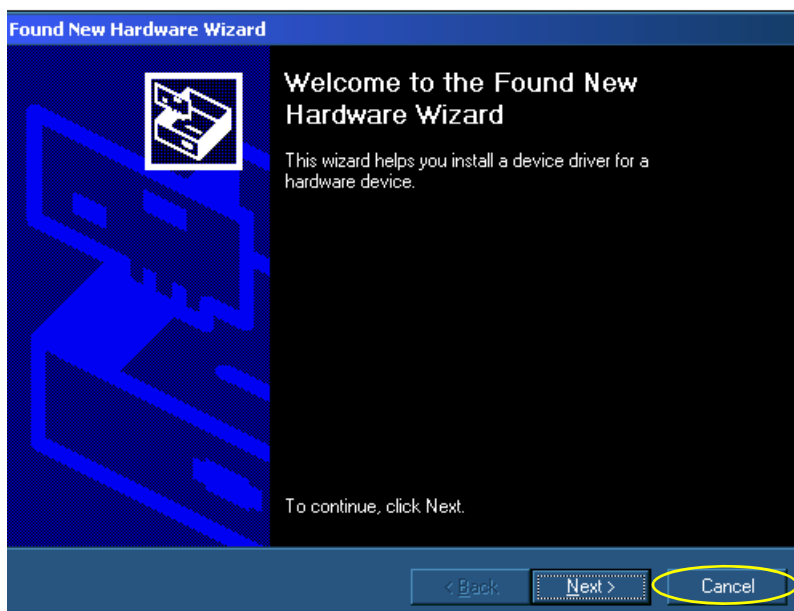

Figure 8-135 Found New Hardware Wizard
- 6.) When the *Found New Hardware Wizard* opens, click **Cancel**, see Figure 8-135 below.